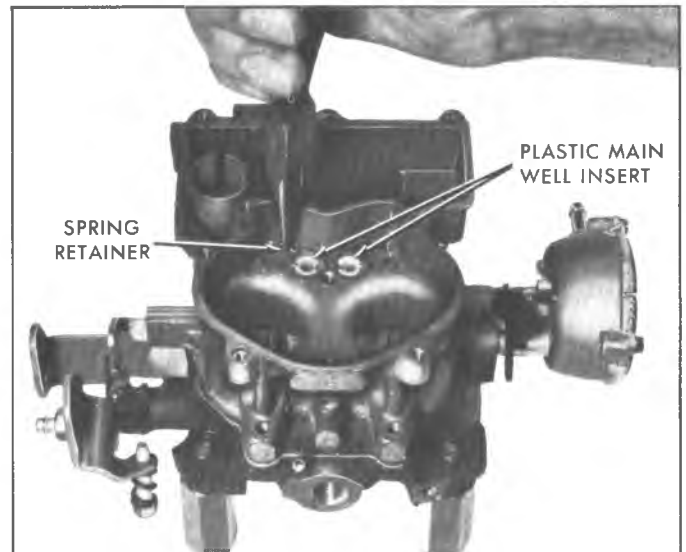

Fig. 6C—Removing Spring Retainer
4. Using a pair of long nosed pliers, remove pump discharge spring retainer (Fig. 6C). Then, spring and check ball may also be removed from discharge passage.
wells located beneath the venturi cluster and make sure they are seated in recesses provided (Fig. 6C). Then install venturi cluster and gasket, tighten three screws evenly and securely. Make certain center screw is fitted with a gasket to prevent pump discharge leakage.